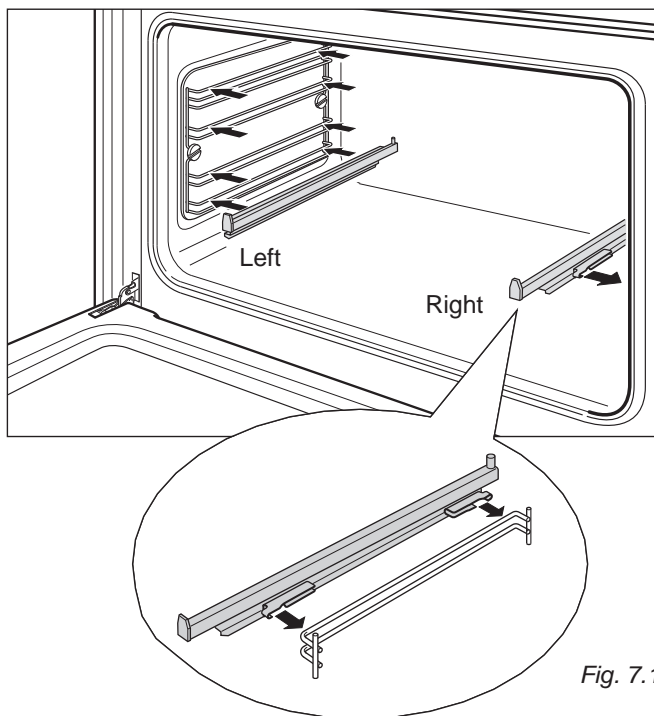

Fig. 7.10
- Fit the sliding shelf supports onto the top wire of a rack and press (fig. 7.10). You will hear a click as the safety locks clip over the wire.